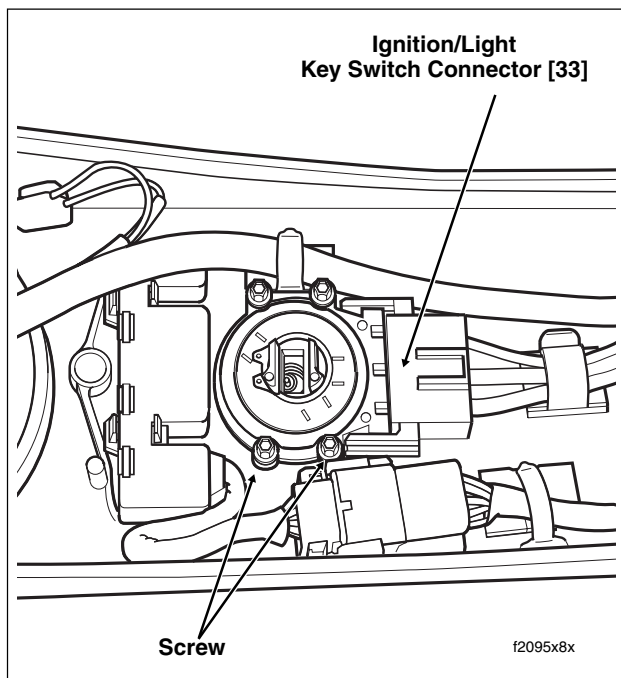

Figure 8-72. Instrument Console (FLHR/C)
8. Pull external latches outward to disconnect ignition/light key switch connector [33], 3-place Packard. See Figure 8-72.
1. Align holes in **new** switch with those in console. See Figure 8-72.